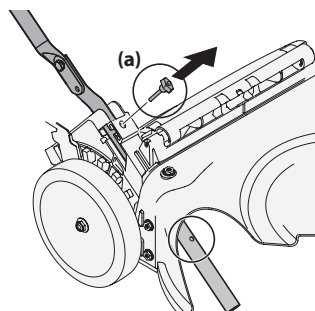
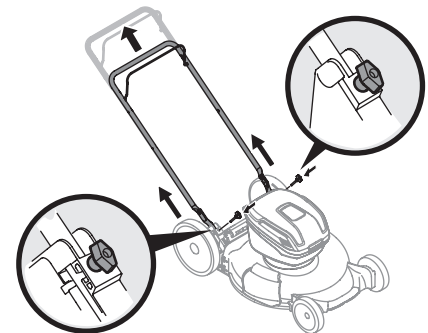

Figure 2-3
Figure 2-4
4. Remove the T-bolts (a) from the handle brackets as shown in Figure 2-3.
- a. Pull upward on the handle until holes in lower handle (shown in Figure 2-3 deck cutaway) line up with holes in handle bracket. See Figure 2-4.
- b. Insert the T-bolts (a) removed in Step 4 through the handle brackets and lower handle and securely tighten to secure the handle in place. See Figure 2-4.